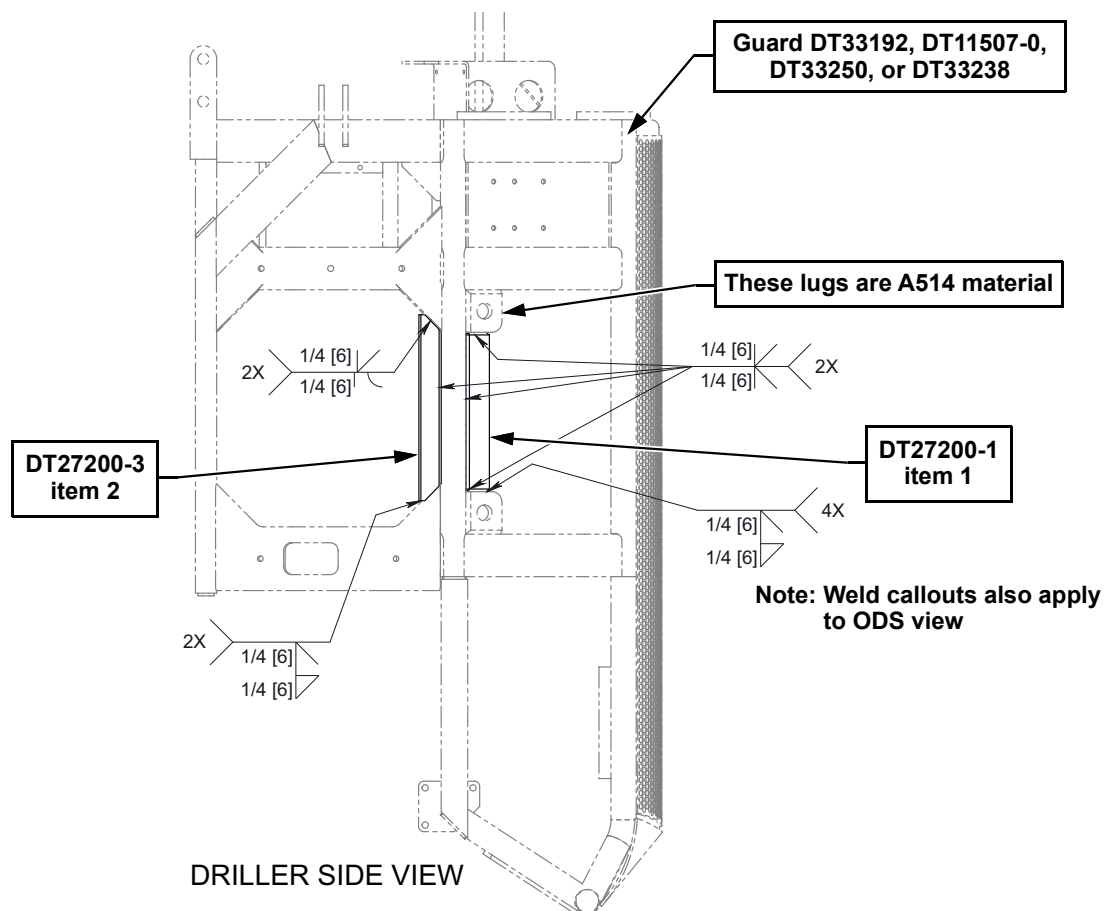

Figure 7: Plates installed on guard (DS)
1. Weld item DT27200-1 (item 1) and DT27200-3 (item 2) to the DS of the guard as shown in Figure 7. **Note:** Outside of items 1 and 2 are flush with outside of plate/HSS above and below them.